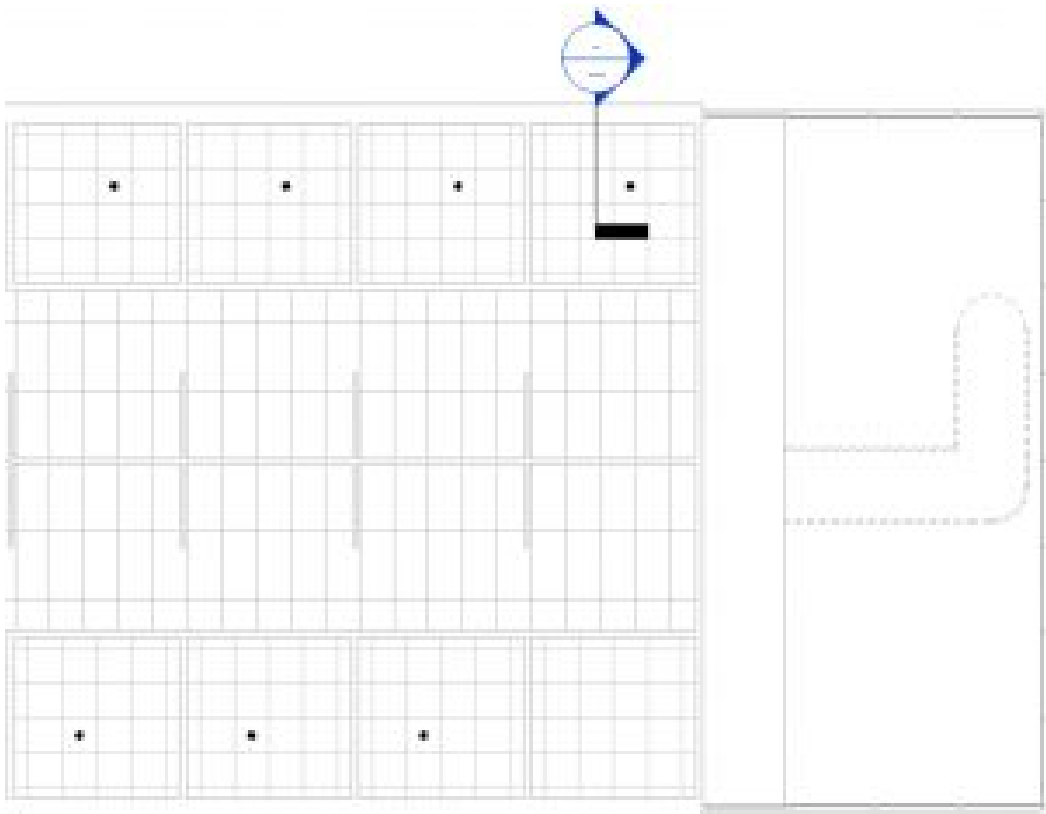

Figure 15.5 Seven placed sprinklers in the ceiling plan view
12. In the Routing Preferences window change each Content and sizes as shown in Figure 15.5, then click OK to close all windows